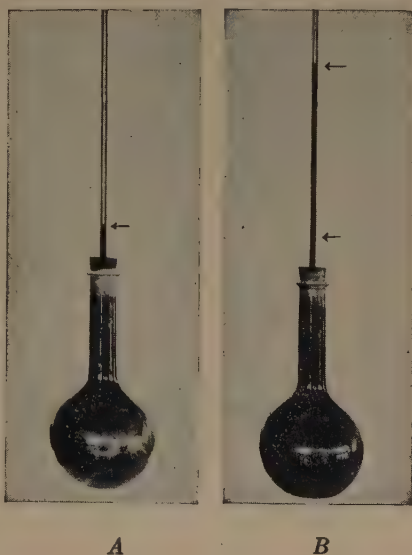

FIG. 49.—Expansion of water. A. At room temperature. B. Result of placing flask in hot water for one minute.
**How thermometers indicate temperature.** Two effects of heat — a rise in temperature and expansion — are closely associated, and it is the dependence of one of these upon the other that makes it possible to determine one by measuring the other. In general, as the temperature of a body rises the body expands. Any substance which expands uniformly with an increase in temperature may be used to indicate temperature. Let us illustrate the action of a thermometer by means of a flask full of water, with a stopper and a glass tube rising 10 inches above it, as shown in Fig. 49. With colored water it will be more easily seen. As the stopper is pressed in, see that the liquid stands about 2 inches above the stopper in the tube. Fasten a piece of white paper back of the tube, and mark the level of the water. If, when the flask is heated, it grows larger, what will happen? Will the water rise or fall in the tube? You are right, it will fall. Now watch carefully as the flask is set in a basin of hot water ( $180^{\circ}$  F.). As you expected, the water first drops in the tube, proving that the flask was made larger; but look again, and see what is happening. The water now rises in the tube even higher than it stood originally. Does the flask grow smaller? No. Then what is the explanation? Could expansion give the effect we have just seen? We see that it could, if we but note that the water must expand more than the glass does. The glass increased in size first because all the heat the water receives must come through the glass. Action similar to this takes place in the common mercury thermometer. The *apparent expansion* in a mercury thermometer is but five-sixths of the *real expansion*. This is because of the increase in size of the ther-